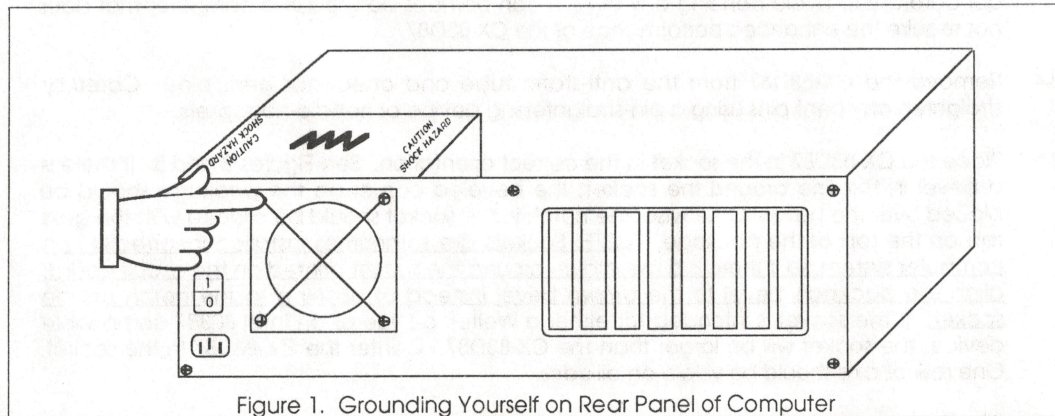

Figure 1. Grounding Yourself on Rear Panel of Computer
3.1.2 Your computer, as well as the CX-83D87, may be damaged by static discharge. It is very important to ground yourself by touching the metal back or side panel on your computer. An illustration of this is seen in Figure 1. You can remain grounded during the installation by using a ground strap. If you are not using a ground strap, care should be taken to avoid moving around during installation. Shuffling your feet, especially on carpet, will generate static electricity. Each time you move, discharge yourself by touching the bare metal back or side panel on your computer.